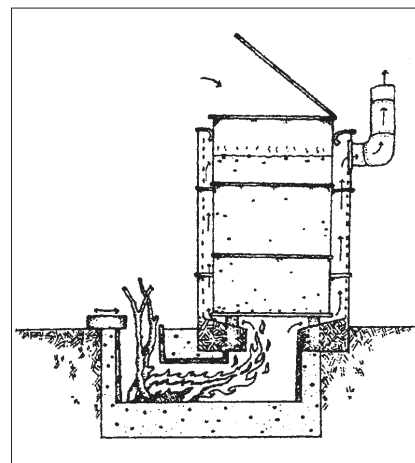

Figure 2: Adding an external chimney
- Adding an external chimney to a simple Rocket stove (as shown in Figure 2) is accom-